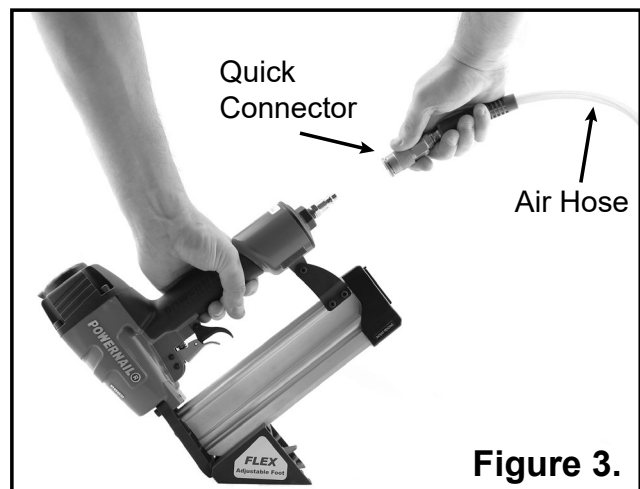

Figure 3.
- 4.) Connect the tool to the air supply (Figure 3).